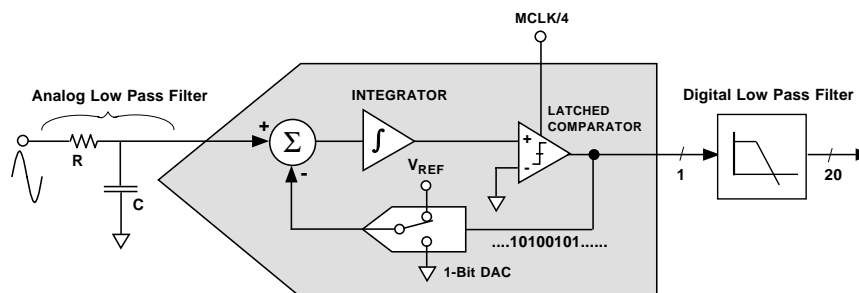
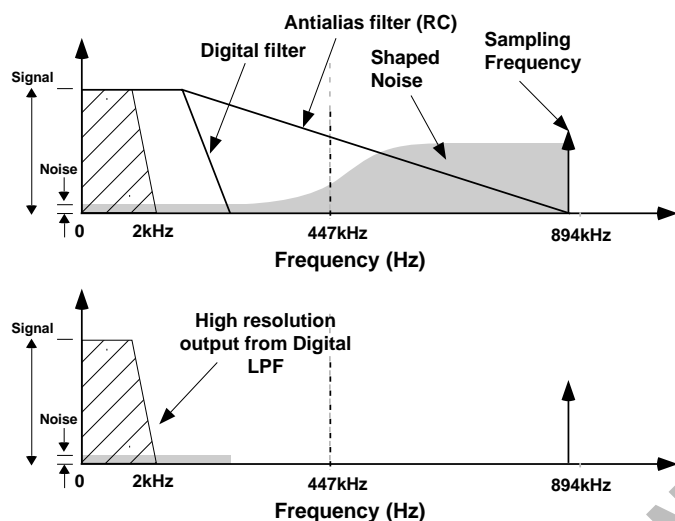
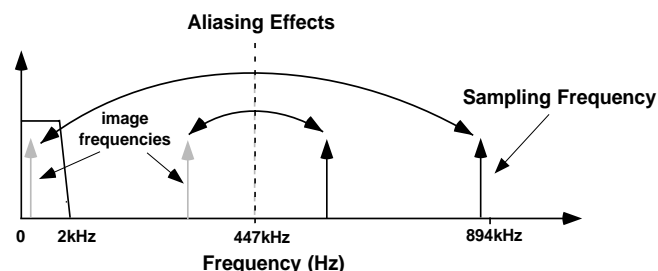

Figure 18– First Order Sigma-Delta ( $\Sigma$ - $\Delta$ ) ADC
Figure 19—Noise reduction due to Oversampling & Noise shaping in the analog modulator
Figure 20—ADC and signal processing in Channel 1
The analog-to-digital conversion in the AD7756 is carried out using two second order sigma-delta ADCs. The block diagram in Figure 18 shows a first order (for simplicity) sigma-delta ADC. The converter is made up of two parts, first the sigma-delta modulator and secondly the digital low pass filter.
The sigma-delta converter uses two techniques to achieve high resolution from what is essentially a 1-bit conversion technique. The first is over-sampling. By over sampling we mean that the signal is sampled at a rate (frequency) which is many times higher than the bandwidth of interest. For example the sampling rate in the AD7756 is CLKIN/4 (894kHz) and the band of interest is 40Hz to 2kHz. Oversampling has the effect of spreading the quantization noise (noise due to sampling) over a wider bandwidth. With the noise spread more thinly over a wider bandwidth, the quantization noise in the band of interest is lowered—see Figure 19. However oversampling alone is not an efficient enough method to improve the signal to noise ratio (SNR) in the band of interest. For example, an oversampling ratio of 4 is required just to increase the SNR by only 6dB (1-Bit). To keep the oversampling ratio at a reasonable level, it is possible to shape the quantization noise so that the majority of the noise lies at the higher frequencies. This is what happens in the sigma-delta modulator, the noise is shaped by the integrator which has a high pass type response for the quantization noise. The result is that most of the noise is at the higher frequencies where it can be removed by the digital low pass filter. This noise shaping is also shown in Figure 19.
Figure 18 also shows an analog low pass filter (RC) on the input to the modulator. This filter is present to prevent aliasing. Aliasing is an artifact of all sampled systems. Basically it means that frequency components in the input signal to the ADC which are higher than half the sampling rate of the ADC will appear in the sampled signal at a frequency below half the sampling rate. Figure 20 illustrates the effect, frequency components (arrows shown in black) above half the sampling frequency (also known as the Nyquist frequency, i.e., 447kHz) get imaged or folded back down below 447kHz (arrows shown in grey). This will happen with all ADCs no matter what the architecture. In the example shown it can be seen that only frequencies near the sampling frequency, i.e., 894kHz, will move into the band of interest for metering, i.e., 40Hz - 2kHz. This fact will allow us to use a very simple LPF (Low Pass Filter) to attenuate these high frequencies (near 900kHz) and so prevent distortion in the band of interest. A simple RC filter (single pole) with a corner frequency of 10kHz will produce an attenuation of approximately 40dBs at 894kHz—see Figure 19. This is sufficient to eliminate the effects of aliasing.